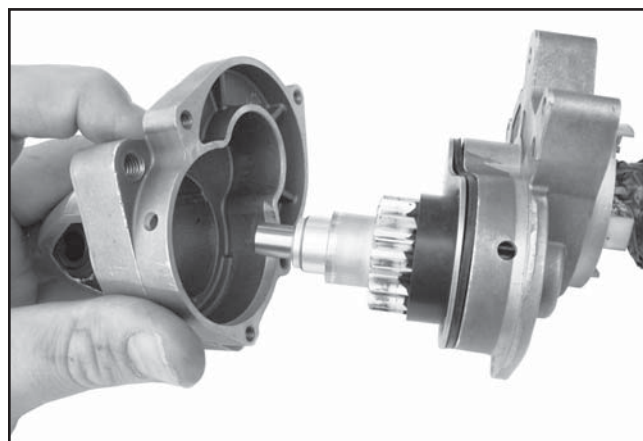

Figure 8-12. Remove Drive End Cap.
3. Remove the drive end cap. The drive pinion will either remain in the geartrain or come out with the drive end cap. See Figure 8-12.